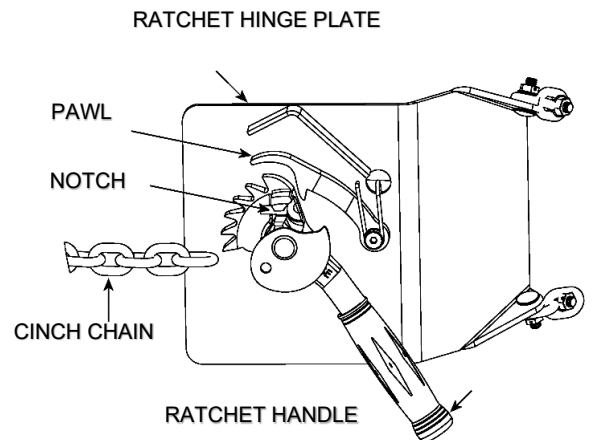

Figure 3.2
3. **Attaching drum:** Drape cinch chain across front of drum and engage chain link into notch in ratchet (Figure 3.2). Turn ratchet clockwise to tighten cinch chain. If ratchet turns until pawl is beyond last ratchet tooth, turn ratchet back and slide next link into ratchet notch and try tightening again. Cinch chain must be held tightly against drum with pawl engaged securely in ratchet teeth.